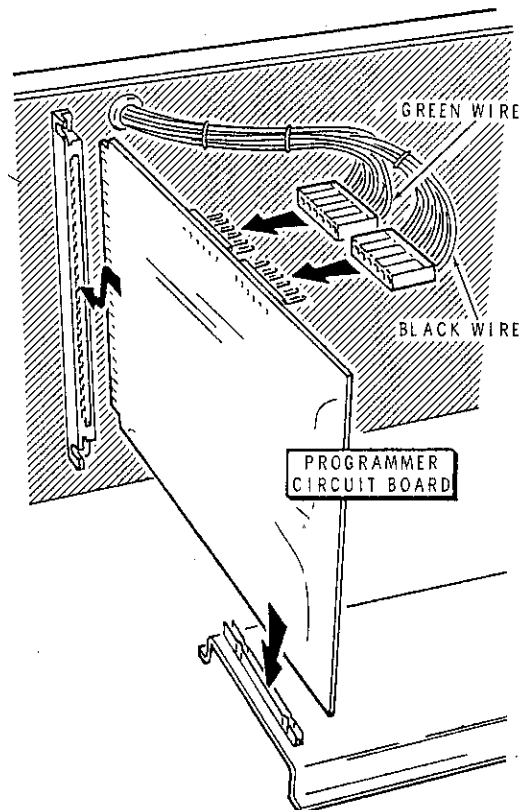

Figure 1-5
- (✓) Refer to Figure 1-5 and install the programmer circuit board. Then install the two plugs as shown.